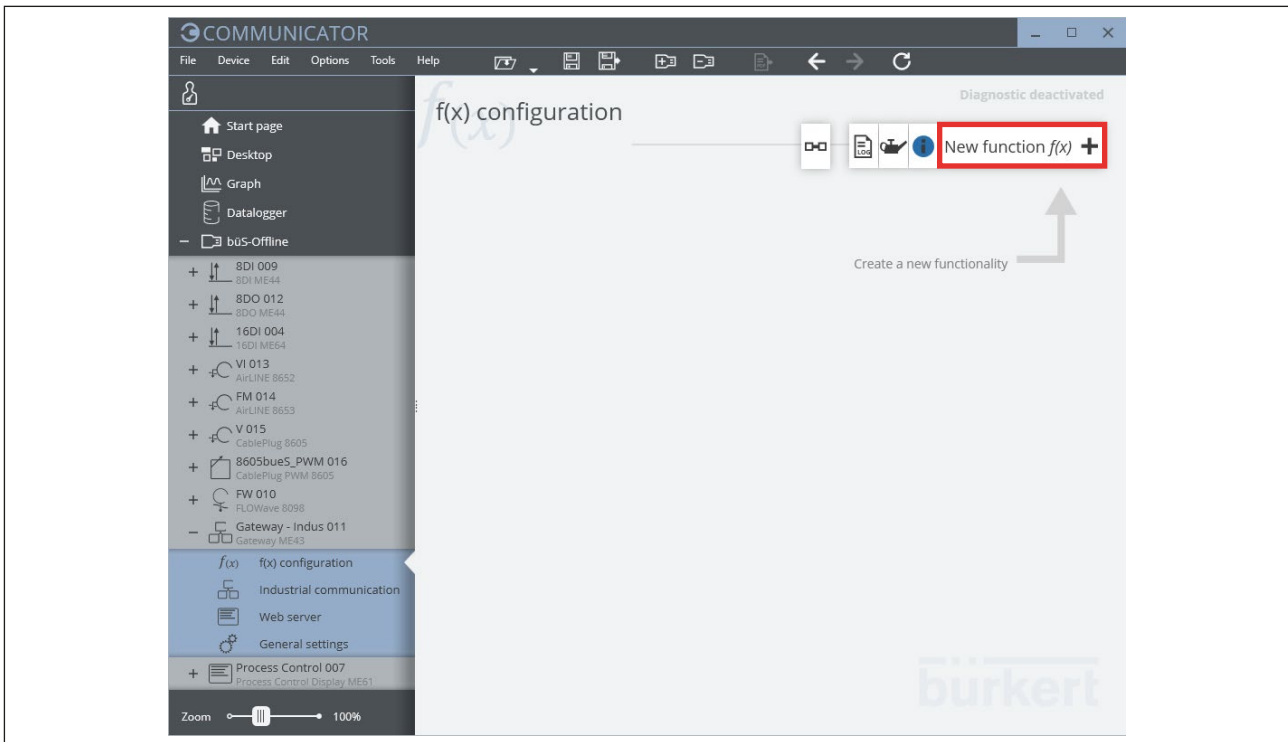

Fig. 3: *f(x) configuration*
- If *f(x)* function is still not displayed, select “*New function f(x)*” and then “*Batch*” (see “Fig. 3: f\(x\) configuration”).